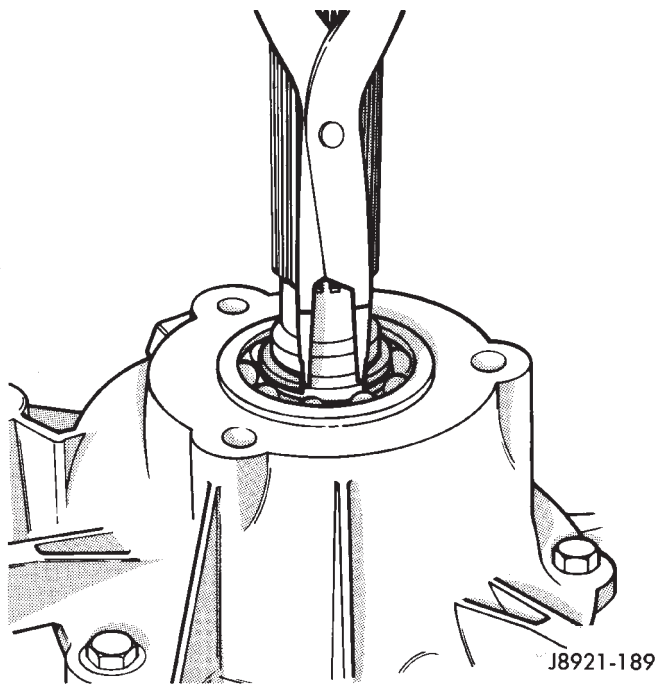

Fig. 82 Installing Rear Bearing Snap Ring
(67) Install locating dowel in rear retainer (if removed) and install the retainer on the case. Tighten the retainer bolts to 41 N·m (30 ft. lbs.) torque.
(68) Install new rear bearing snap ring (Fig. 82). Lift mainshaft slightly to seat the snap ring if necessary.